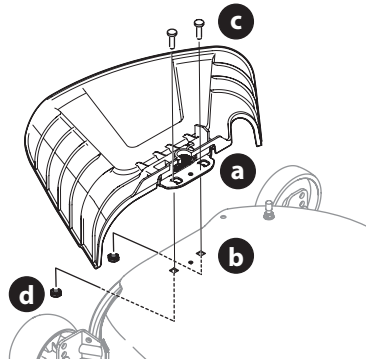

Figure 8
- Using two carriage bolts (c) and two flange nuts (d), secure the chute deflector to the deck (Figure 8). Tighten to 170-200 in-lbs (18.5-23 N-m) (Figure 8). Skip ahead to Setting Deck Wheels.